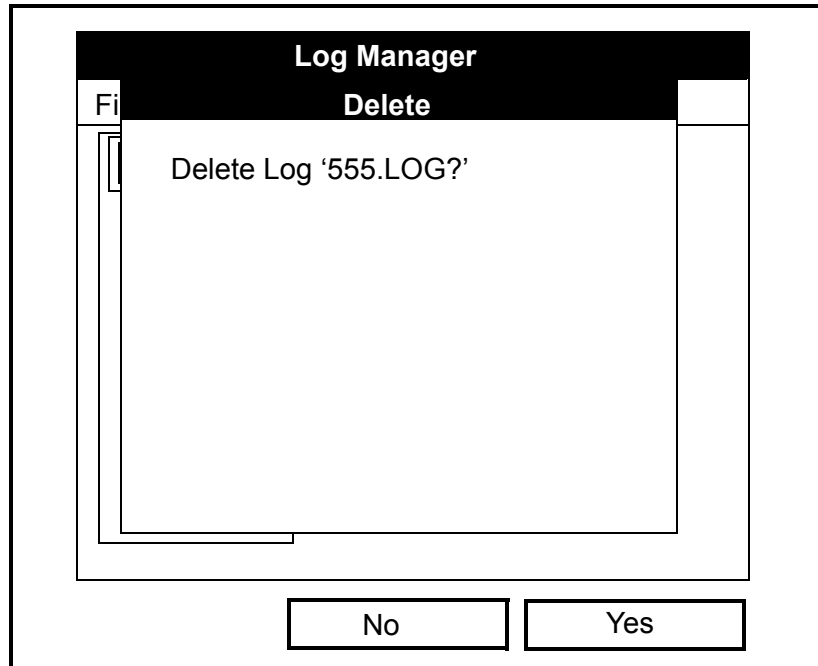

Figure 5-8: The Delete Confirmation Window
3. In the *File* menu, scroll to the *Delete* option and press [ENTER]. A *Delete* confirmation window opens (see Figure 5-8 below).